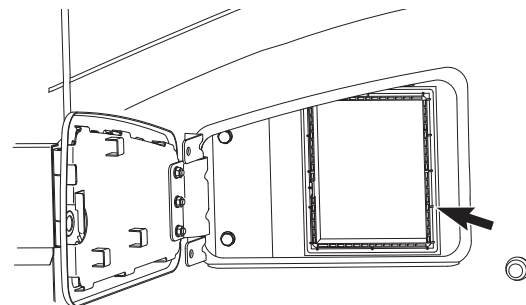

Figure 181
2. Remove filter (Figure 181) and replace with new one.